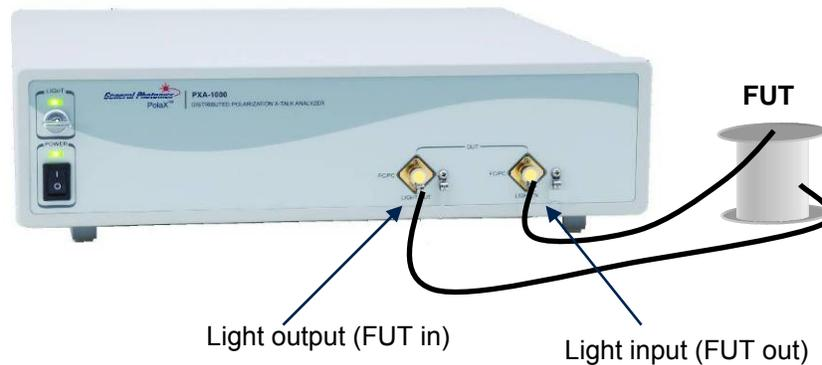

Figure 9 Distributed polarization crosstalk measurement setup
The recommended distributed polarization crosstalk measurement setup is shown in Figure 9. All fibers used in the measurement should be PM fibers with connector keys aligned to their slow axes. The external connectors should be carefully cleaned before connecting to the PXA-1000.
1. Connect fiber under test (FUT) as shown in Figure 9.